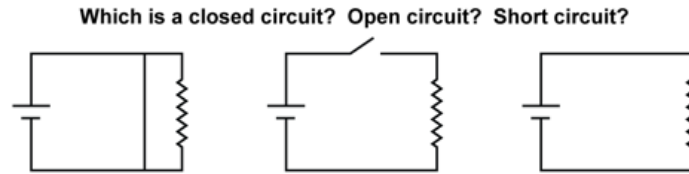

Figure 6.1: Identify the circuits.
2. Identify the kinds of circuits shown in Fig. 6.1. Recall that elements in series have the same current flowing through them while elements in parallel have the same potential difference across them. Further, a short circuit is one where the battery is connected across a wire path only while an open circuit is one where current cannot flow.